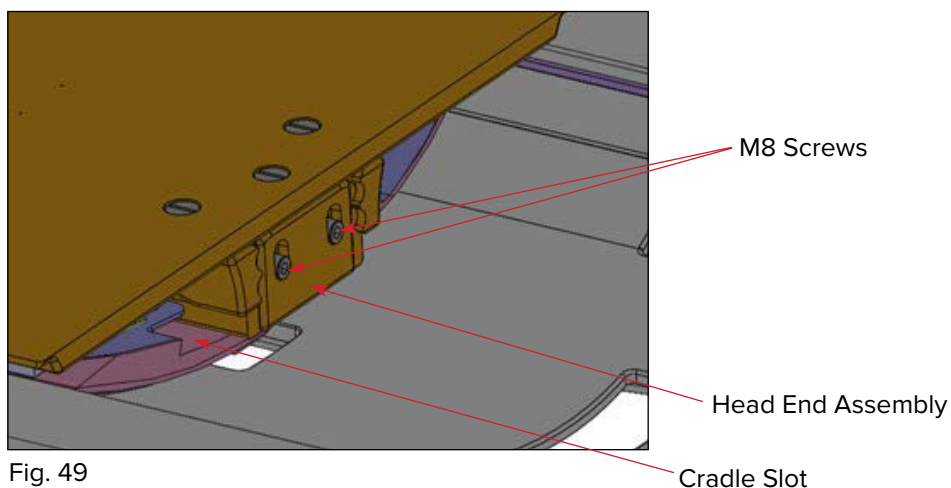

Fig. 49
3. Loosen the M8 screws on the Head End Assembly and slide the Front Lip Catch up or down to a point where it can smoothly slide into the cradle slot (Fig. 49).